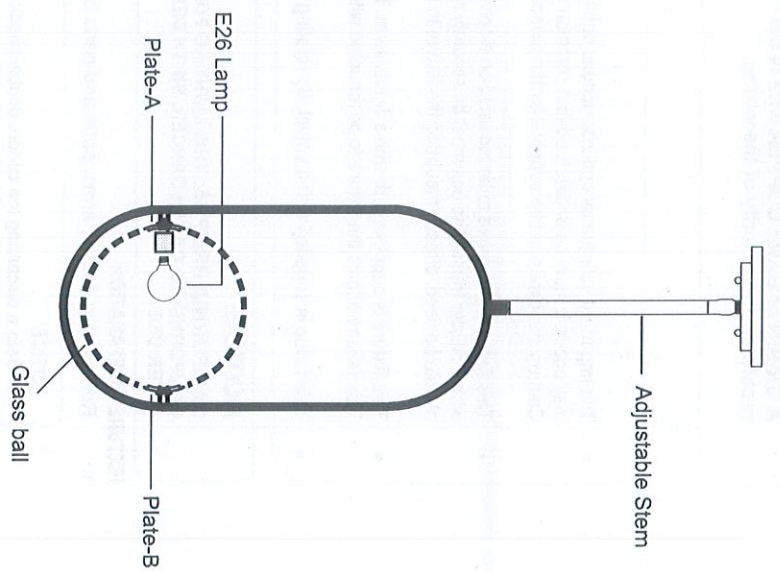

FIGURE-03
- Install the glass ball to the fixture by securing it with plates A & B. (See Figure-03)